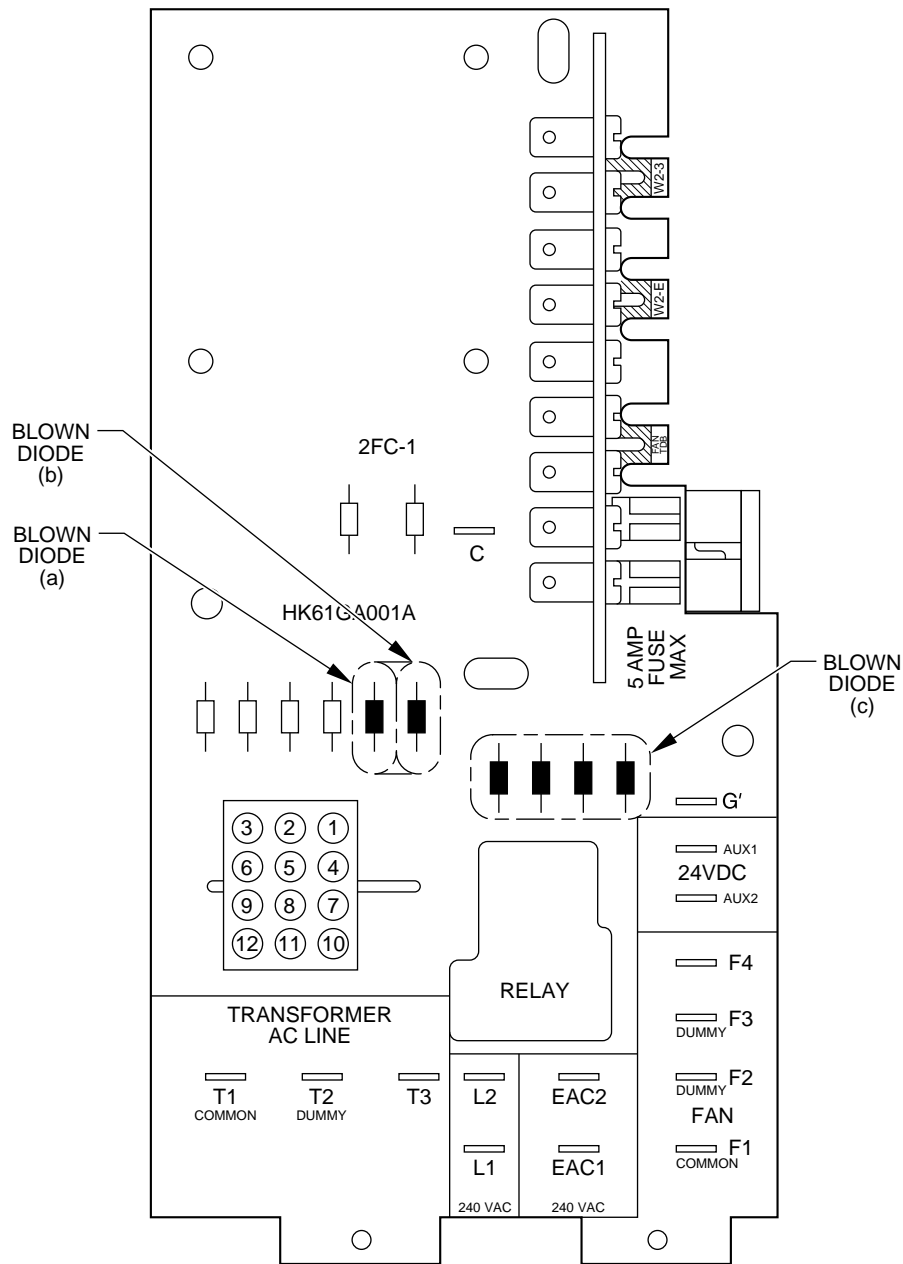

Fig. 14—Control Board Noting Diodes
- c. Check the wiring of the heaters. If the heater is miswired, the fuse may blow. Check the diodes shown in Fig. 14 for signs of overheating. If the heater is miswired, correct the miswiring.